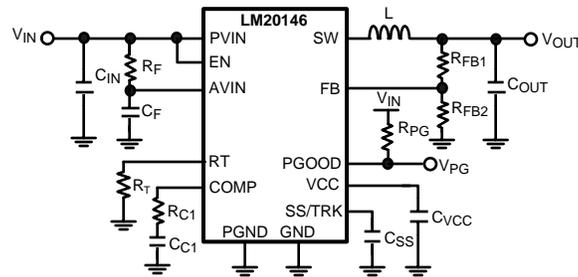

Figure 29. Typical Application Circuit
The LM20146 switching regulator features all of the functions necessary to implement an efficient low voltage buck regulator using a minimum number of external components. This easy to use regulator features two integrated switches and is capable of supplying up to 6A of continuous output current. The regulator utilizes peak current mode control with nonlinear slope compensation to optimize stability and transient response over the entire output voltage range. Peak current mode control also provides inherent line feed-forward, cycle-by-cycle current limiting and easy loop compensation. The switching frequency can be varied from 250 kHz to 750 kHz. The device can operate at high switching frequency allowing use of a small inductor while still achieving high efficiency. The precision internal voltage reference allows the output to be set as low as 0.8V. Fault protection features include: current limiting, thermal shutdown, over voltage protection, and shutdown capability. The device is available in the HTSSOP package featuring an exposed pad to aid thermal dissipation. The LM20146 can be used in numerous applications to efficiently step-down from a 5V or 3.3V bus. The typical application circuit for the LM20146 is shown in Figure 29 in the design guide.
This section walks the designer through the steps necessary to select the external components to build a fully functional power supply. As with any DC-DC converter numerous trade-offs are possible to optimize the design for efficiency, size, or performance. These will be taken into account and highlighted throughout this discussion. To facilitate component selection discussions the circuit shown in Figure 29 below may be used as a reference. Unless otherwise indicated all formulas assume units of Amps (A) for current, Farads (F) for capacitance, Henries (H) for inductance and Volts (V) for voltage.
To prevent high frequency noise spikes from disturbing the sensitive analog circuitry connected to the AVIN and AGND pins, a high frequency RC filter is required between PVIN and AVIN. These components are shown in Figure 29, as C_F and R_F . The required value for R_F is 1Ω. C_F must be used. Recommended value of C_F is 1.0 μF. The filter capacitor, C_F should be placed as close to the IC as possible with a direct connection from AVIN to AGND. A good quality X5R or X7R ceramic capacitor should be used for C_F .